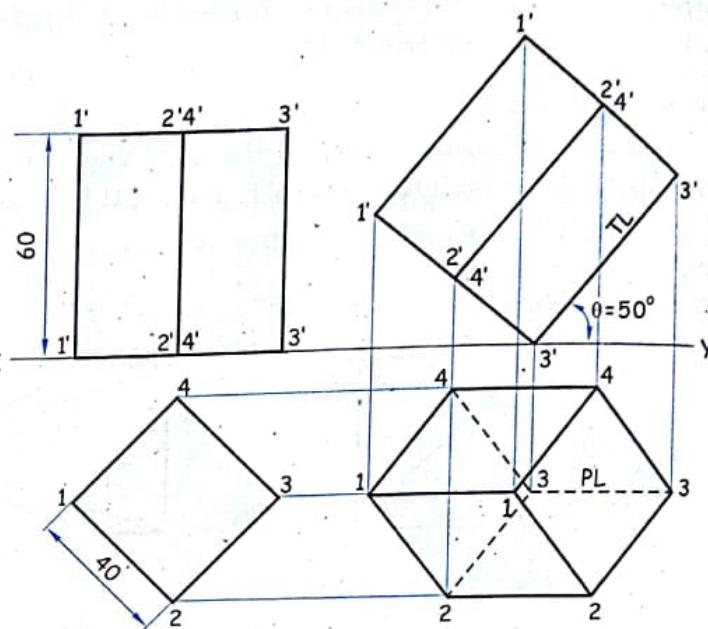

FIG. 10.42
**Solution :** Refer figure 10.42.